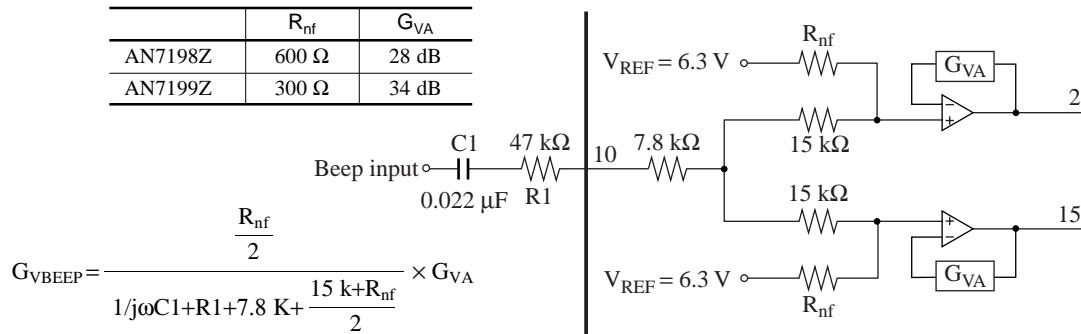

Figure 8
- 1) The application circuit using the beep sound input is shown in figure 8. Connect the beep signals from the microcomputer to pin 10 via the capacitor C1 for DC cut and the resistor R1 for voltage gain adjustment.
- 2) The voltage gain of beep sound terminal is approx.  $-6.2$  dB. In the setting value of figure 8, it becomes approx.  $-19.7$  dB ( $f = 1$  kHz).